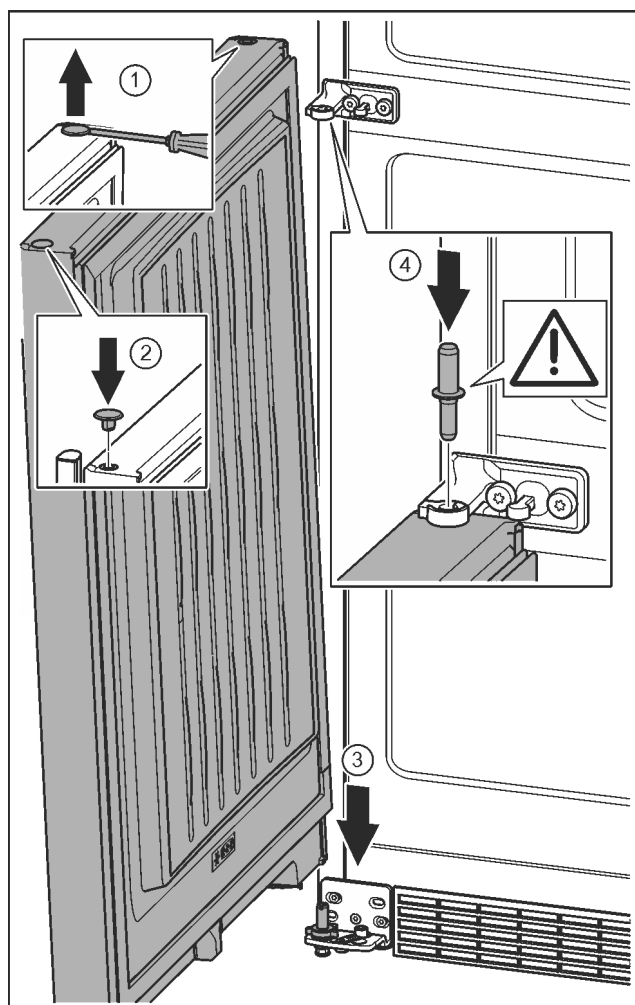

Fig. 22
- Carefully lift up the plugs with a slotted screwdriver and remove them. Fig. 22 (1)
- Insert the plugs again on the other side of the door. Fig. 22 (2)
- Position the door from above onto the lower bearing pins. Fig. 22 (3)
- Insert the centre bearing pin through the centre bearing bracket into the lower door. Make sure that the catch mechanism is pointing to the rear. Fig. 22 (4)